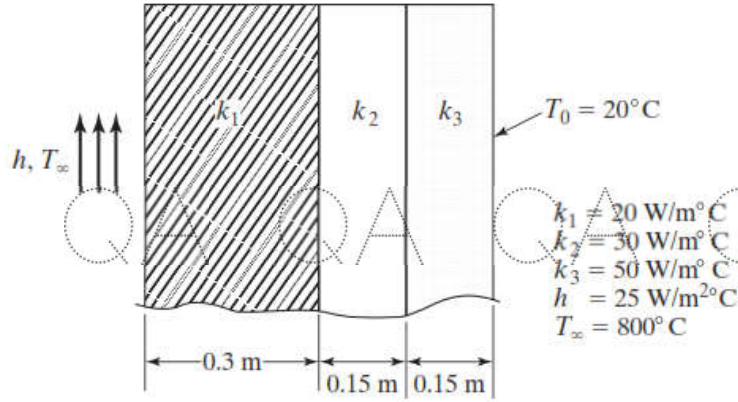

Figure 8
9. A composite wall consists of three materials, as shown in figure 8. The outer temperature is $T_0 = 20^\circ\text{C}$. Convection heat transfer takes place on the inner surface of the wall with $T_\infty = 800^\circ\text{C}$ and $h = 25 \text{ W/m}^2\text{C}$. Determine the temperature distribution in the wall. [10]